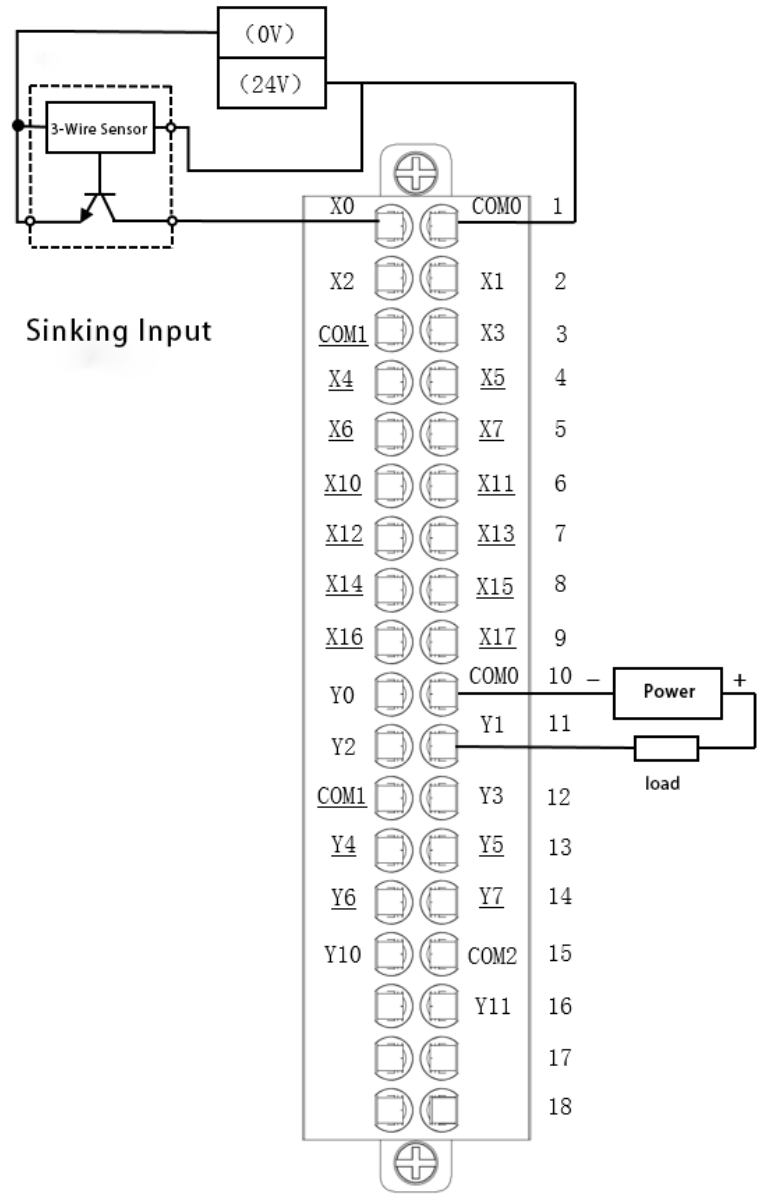

Figure 1.1 Sink-type input wiring diagram
- Sink-type input wiring is shown in Figure 1.1.
Example for when using output port Y1, the wiring diagram is attached in both Figures 1.1 and 1.2.
In Figures 1.1 and 1.2: